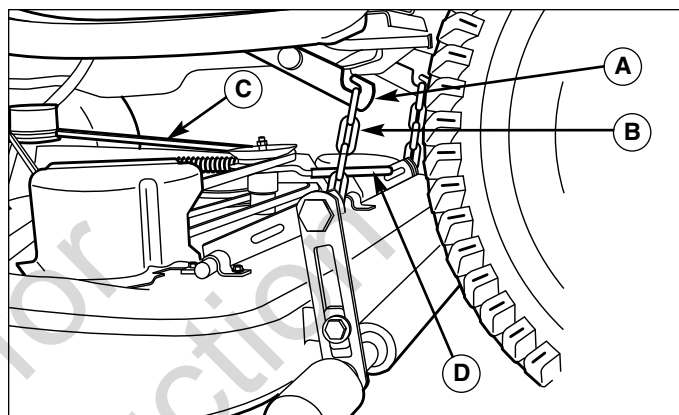

Figure 12. Mower Lift
3. Use the idler arm (D, Figure 12) to release tension on the PTO belt, and remove belt from the PTO pulley.
4. Pull down on the lift hooks (A, Figure 12) and unhook the lift chains (B).
4. See Figure 12. Connect the mower lift chains (B) to the tractor lift hooks (A).
5. See Figure 12. From left side of tractor, use the idler arm (D) to relieve belt tension. Install belt (C) onto the PTO pulley.